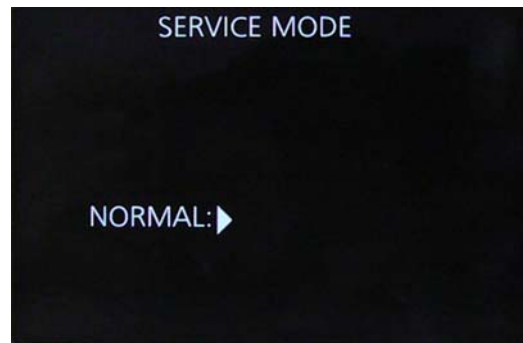

Fig. 3-5
3. Do not press any buttons/keys until the default menu (Refer to Fig.3-5) is displayed on the LCD monitor. Otherwise, adjustment data may not be stored properly.